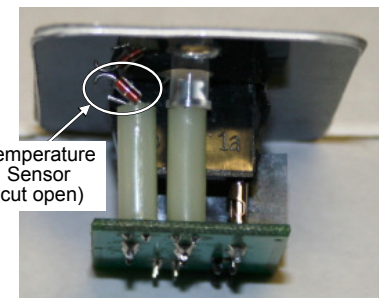

Figure 3, Sensor Cut Open
2. Use a pair of small wire cutters to cut open one side of the temperature sensor wire (see Figure 3). Ensure the cut ends are not able to touch.